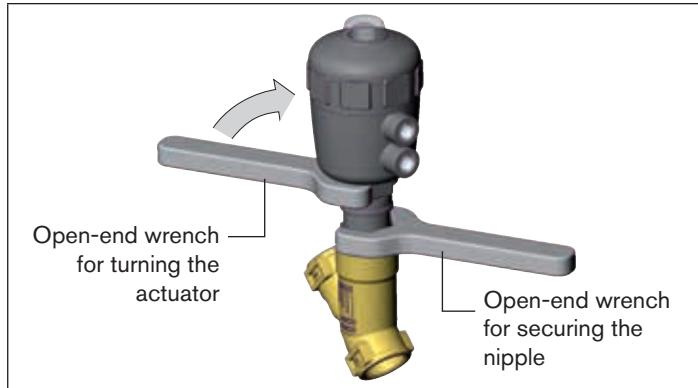

Fig. 19: Turning with open-end wrench
- Place a suitable open-end wrench on the hexagon of the actuator (see "Fig. 19").
- Turn the actuator **in the specified sense of direction** only (see "Fig. 19").